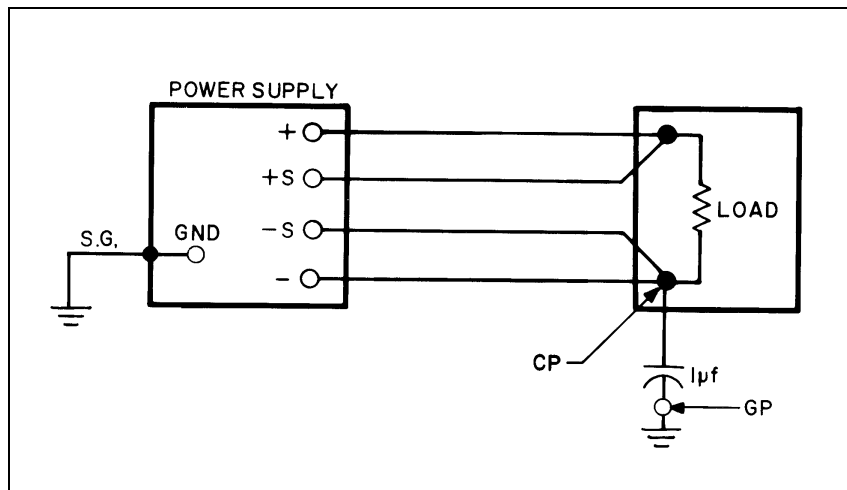

Figure 45. Floating Load
- e. **Load System Floated as a DC Potential Above Ground** In some applications it is necessary to operate the power supply output at a fixed voltage above (or below) ground potential. In these cases it is usually advantageous to designate DC Common Point using whichever of the preceding four alternatives is appropriate, just as though conductive grounding would be employed. Then this DC Common Point should be "shorted" to the DC Ground Point through a $1\mu\text{F}$ capacitor (Figure 45).